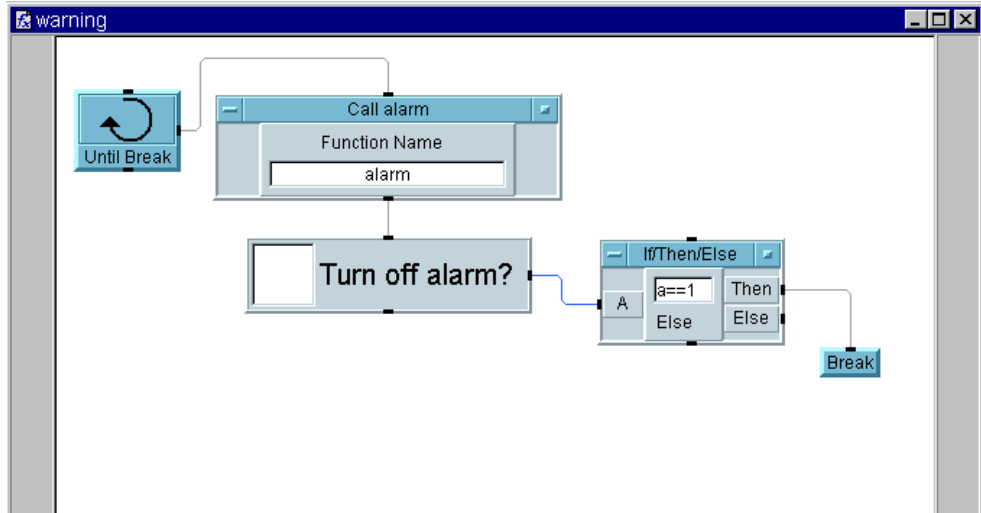

Figure 8-24. The Warning UserFunction (Detail View)
17. Select Flow $\Rightarrow$ Repeat $\Rightarrow$ Break and connect it to the Then output on the If/Then/Else object, as shown in Figure 8-24.